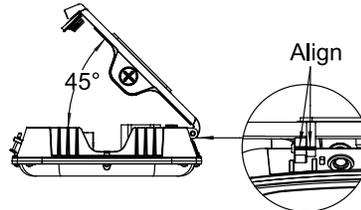

Fig. 3
3. Adjust the front housing and rear cover to form a 45° angle by aligning the line markers on the hinges (Fig. 3).